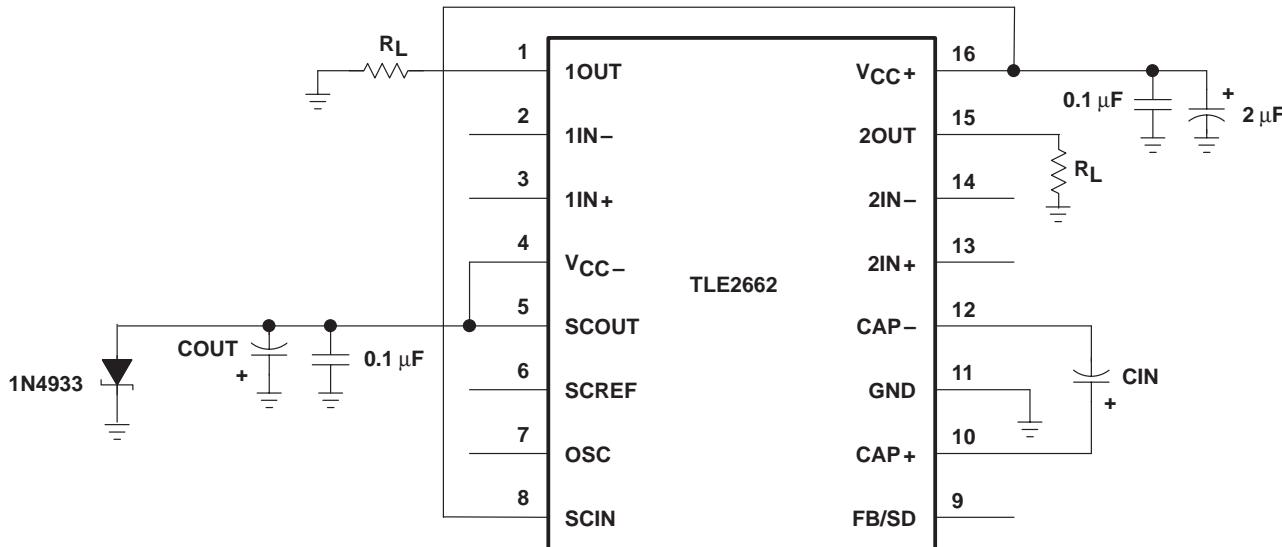

Figure 4. Test Circuit
**electrical characteristics,  $V_{CC+} = 5$  V,  $T_A = 25^\circ\text{C}$  (see Figure 4)**